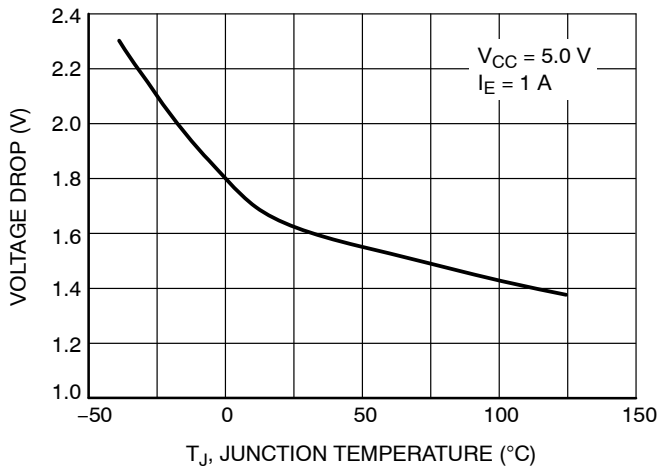

Figure 7. Emitter Follower Configuration Output Darlington Switch Voltage Drop vs. Temperature
9. V_{SWCE} – Darlington Switch Collector to Emitter Voltage Drop, refer to Figures 7, 8, 9 and 10.